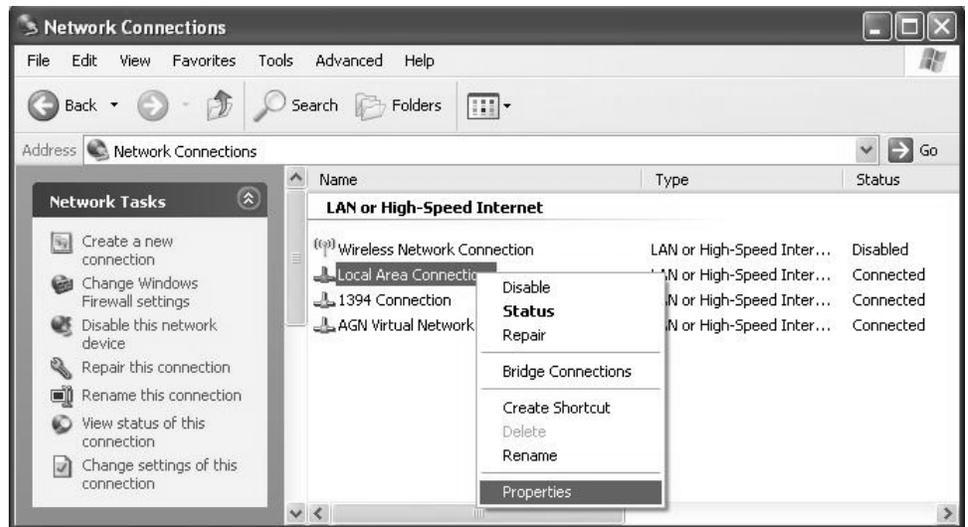

Figure 50. Local Area Connection Properties
5. Right-click **Local Area Connection** → **Properties**. See Figure 50.